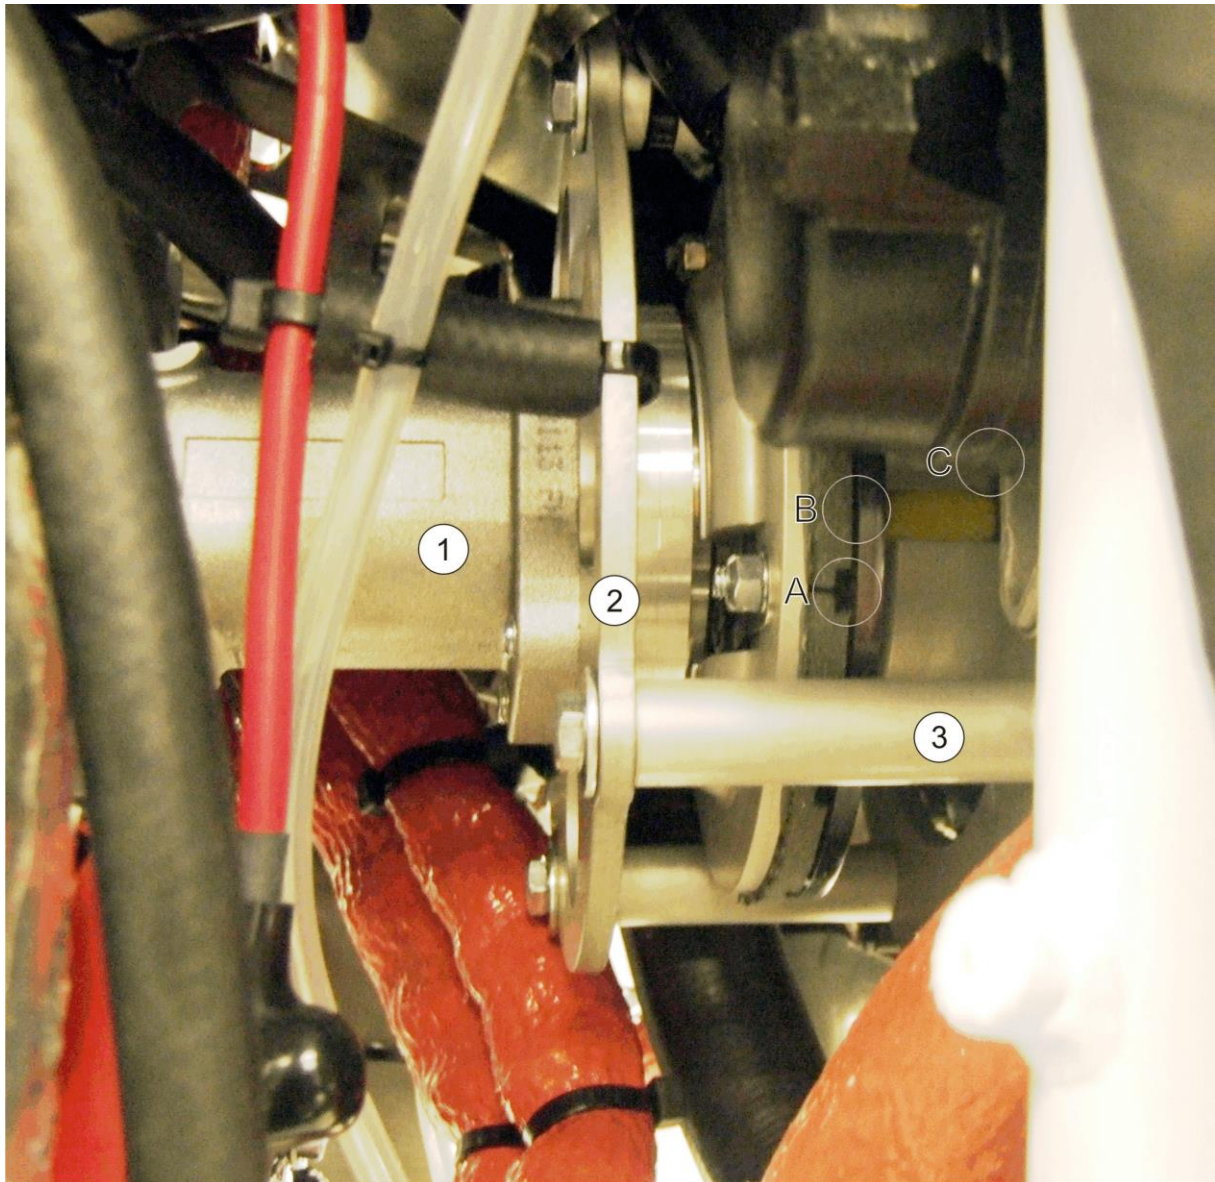

Fig. 1 - Pre-rotator clutch with attach ring
- 2 Measure clearance between clutch lining and clutch plate. See Fig. 1, dimension B. Clearance must be between 1.0 - 1.5 mm. In case clearance is less than 1 mm or more than 1.5 mm contact AutoGyro customer support.
- 3 Measure clearance between inner (engine side) drive star disc and outer (clutch side) drive star claws. See Fig. 1, dimension C. Clearance must be between 1.0 - 1.5 mm. In case clearance is less than 1 mm or more than 1.5 mm contact AutoGyro customer support.